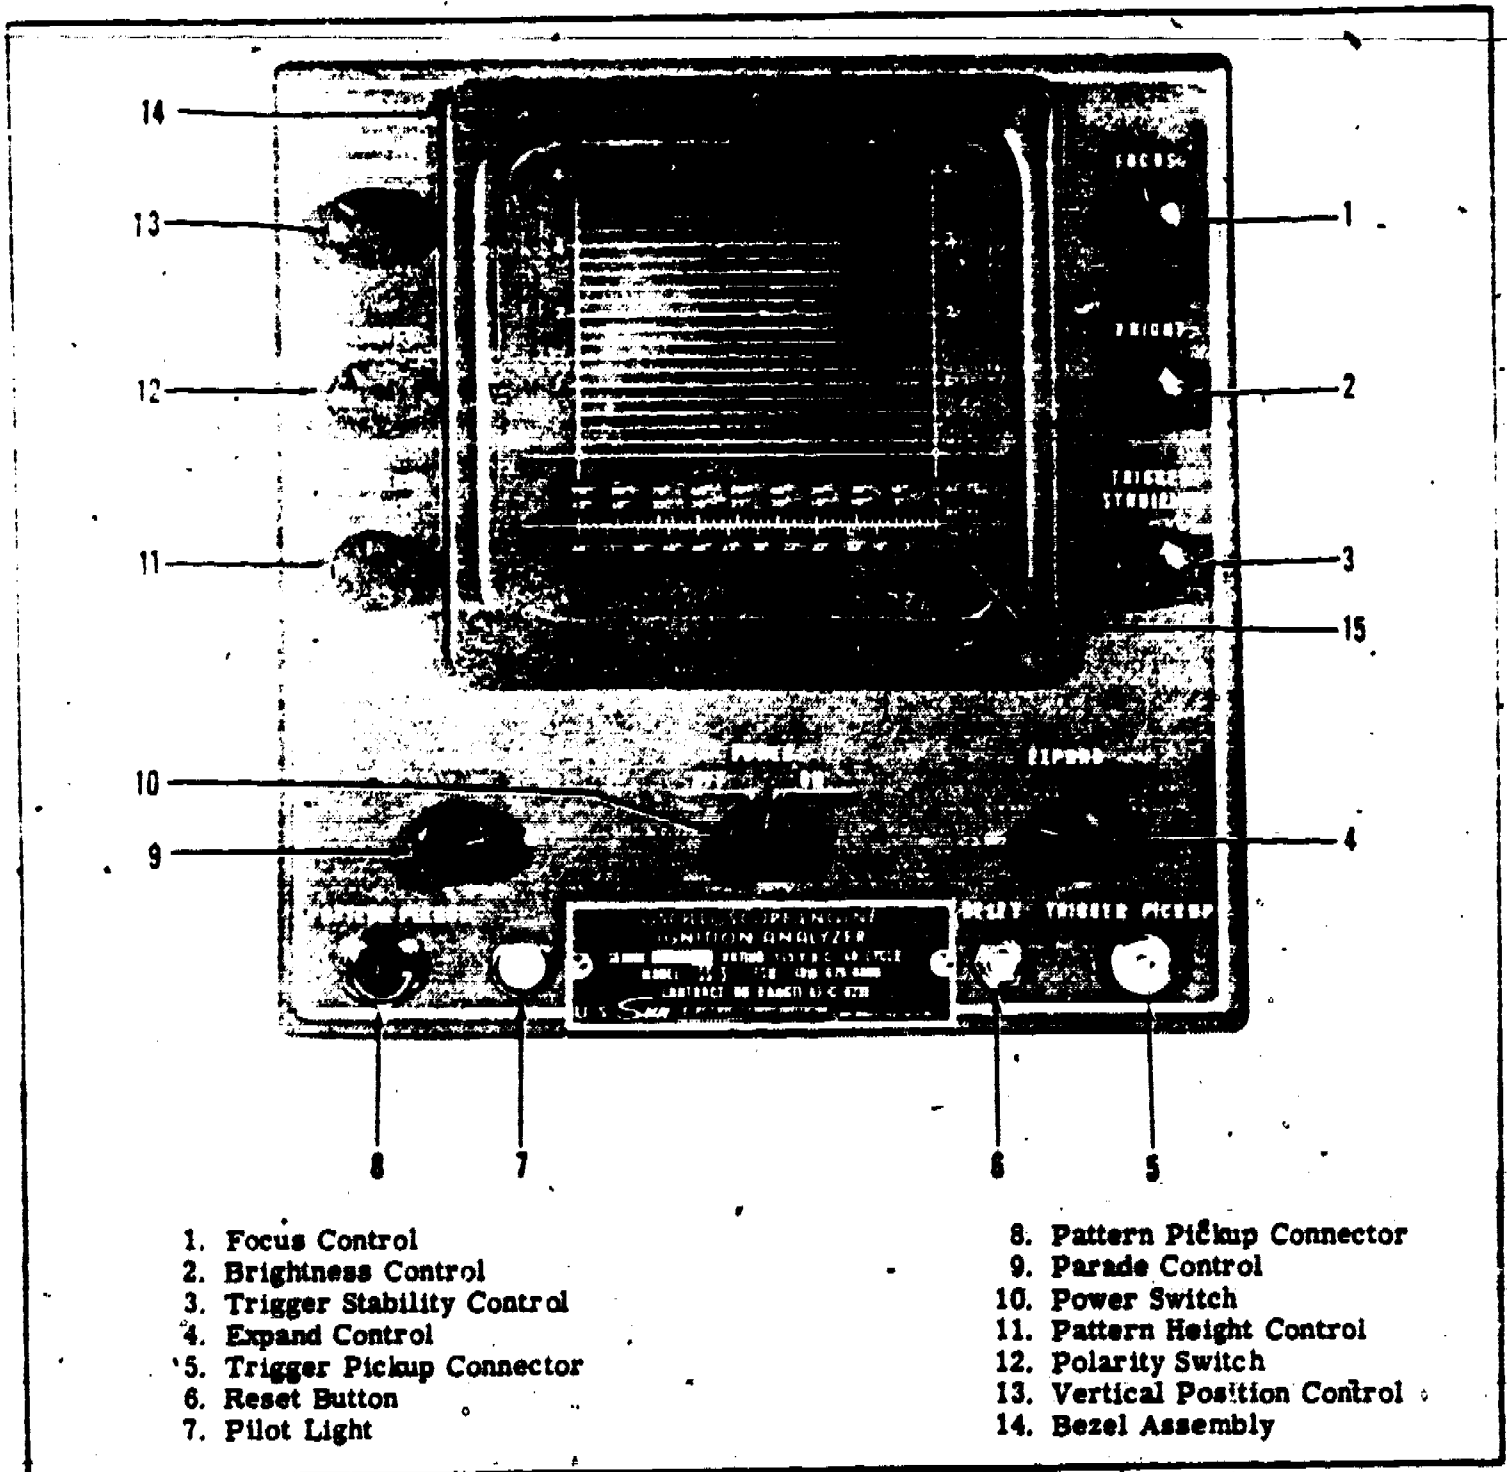

Figure 2-1. Oscilloscope Control Panel
2-4. For location and identification of all controls, refer to figure 2-1.
b. Set power switch (10, figure 2-1) to ON. When the power switch is in the ON position the pilot lamp (7, figure 2-1) should light.
If the pilot lamp fails to light inspect ac power cord connections and proper voltage power supply. Press circuit breaker RESET button (6, figure 2-1).
c. Rotate expand control knob (4, figure 2-1) until the index line and dot are in alignment. This knob adjusts the length or horizontal gain of the waveform and permits close examination of each cylinder.
d. Align parade control knob (9, figure 2-1) as outlined in step c. The parade knob adjusts horizontal position of the waveform and permits parading of individual cylinders across the screen, for closer examination.
e. Rotate pattern height knob (11, figure 2-1) to an upright position. The waveform height or vertical gain is controlled and adjusted with this knob.
f. Set polarity switch (12, figure 2-1) to match polarity of the vehicle battery ground terminal. The polarity switch changes polarity of the waveform.
g. Rotate vertical position knob (13, figure 2-1) to an upright position. The vertical position of the waveform is controlled and adjusted with this knob.
h. Adjust the trigger stability knob (3, figure 2-1) as outlined in step g. This control eliminates horizontal movement or roll of the waveform caused by improper synchronization of the oscilloscope with the engine.
i. Adjust brightness control knob (2, figure 2-1) as outlined in step g. Brilliance or intensity of the waveform is adjusted by this knob.
j. Adjust focus control knob (1, figure 2-1) as outlined in step g. The focus knob focuses the waveform for maximum clarity and shall be adjusted whenever the brightness control knob (2, figure 2-1) is changed.
i. Set polarity switch (12, figure 2-1) to match the vehicle battery ground polarity.
l. Observe waveform, and adjust the spark line height to line 1, using the pattern height control. Adjust the remaining controls for the desired position, clarity and brightness. If waveform appears to be unstable, or is moving horizontally across the screen, adjust the trigger stabilization control (3, figure 2-1) until the waveform is steady.
a. Set polarity switch (12, figure 2-1) to correspond with vehicle battery ground polarity.